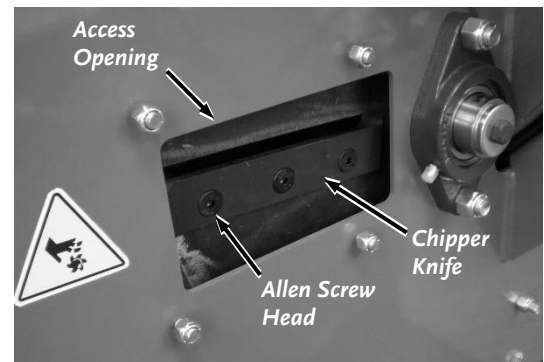

Figure 35
9. Rotate the Rotor Assembly using a Stick until the three Allen Screws attaching the Knife to the Rotor are visible through the Access Opening (**Figure 35**).